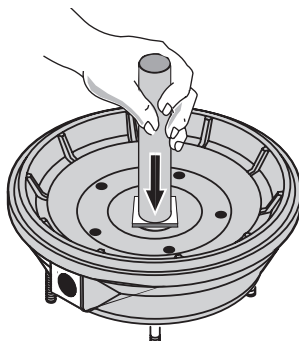

**Figure 10**
4. Place back half of pump on flat surface and tap out ceramic seat. See Figure 10.